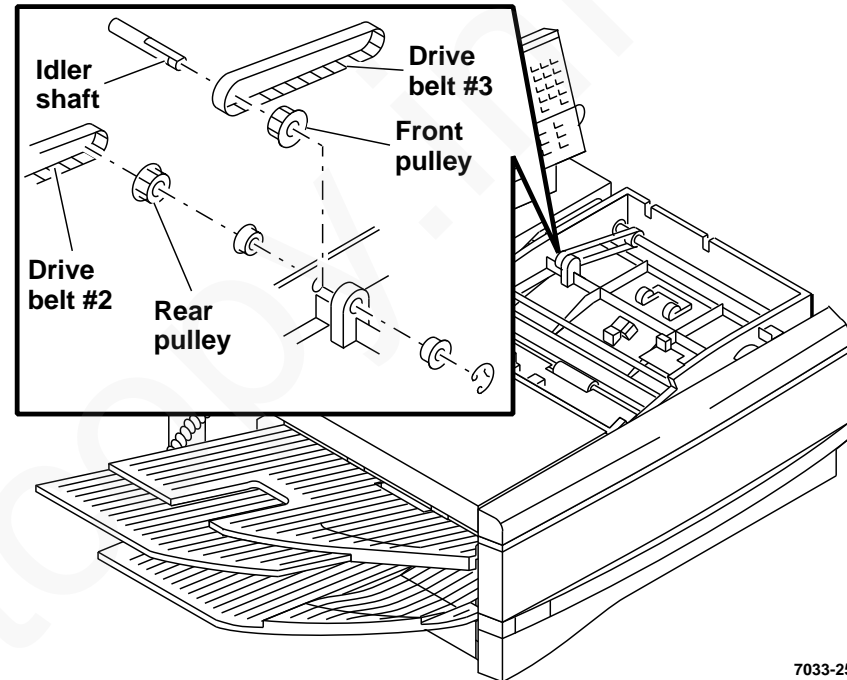

Figure 10. Pressure roller idler shaft removal
- a. Remove drive belt #2 from rear pulley (Figure 10).